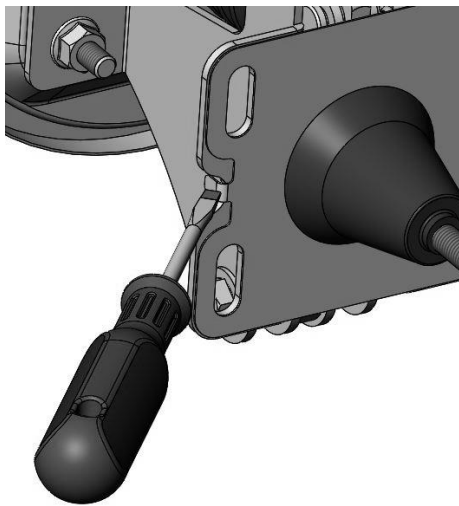
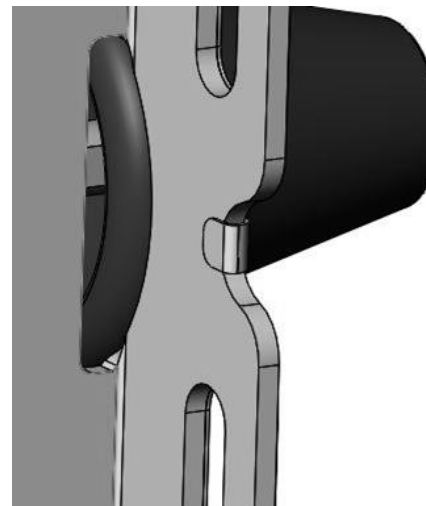

Figure 3a – Folding the Tabs
Figure 3b – Tabs Fully Folded Over
6. Install the pedal push rod boot and plate on the booster mounting bracket. To secure, fold the tabs on the plate onto the brackets as shown in Figure 3a below and fully installed in Figure 3b.